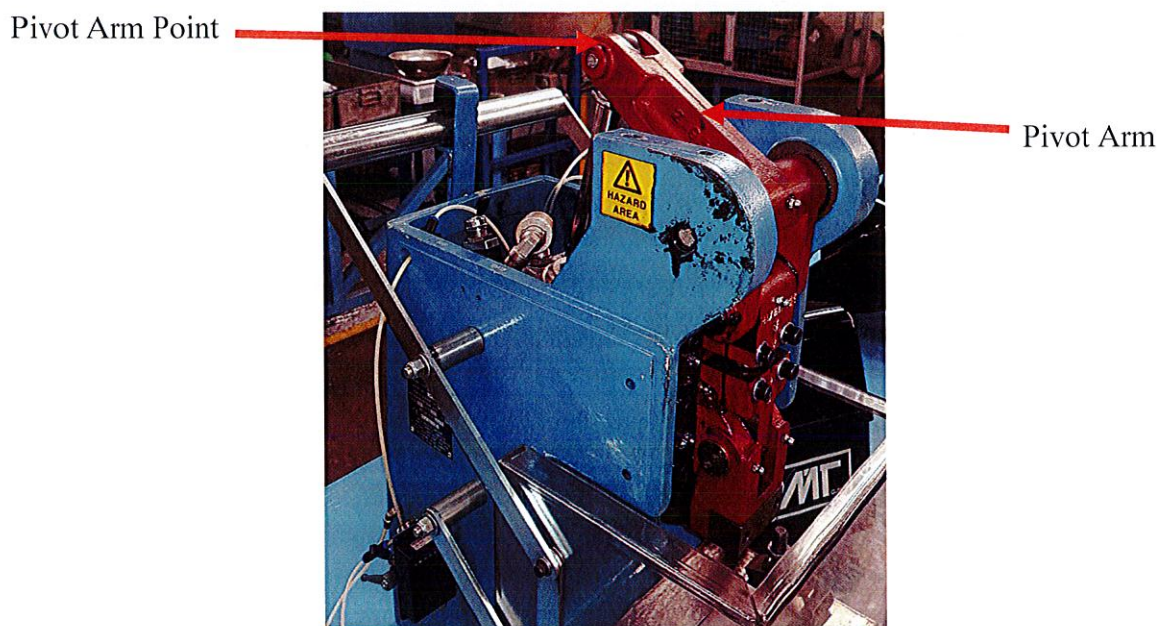

Figure 7: Showing the hood off the press top allowing access to the pivot arm.
**6.7. Check Settings.** With the compressed air still off you can check that the tooling will not crash by manually pushing the tool up and down. Take the hood off the top of the press to show the pivot arm. Pushing on this point will move the tool to the upper and lower limits. Figure 7.